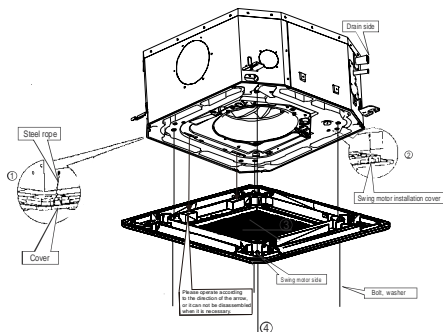

Fig.5-11
- Align the swing motor on the panel to the tubing joints of the body properly. (Refer to Fig.5-11)
- Hang the four fixed rope of the main body to the installation cover and the other three covers of the swing motor: (Refer to Fig.5-11①and②)
- Install the panel on the main body with bolt (M5×16) and washer. (Refer to Fig.5-11④)
- Regulate the panel in the direction of the arrow in Fig.5-11.③ slightly to fit the panel's center to the center of the ceiling's opening. Guarantee that hooks of four corners are fixed well.